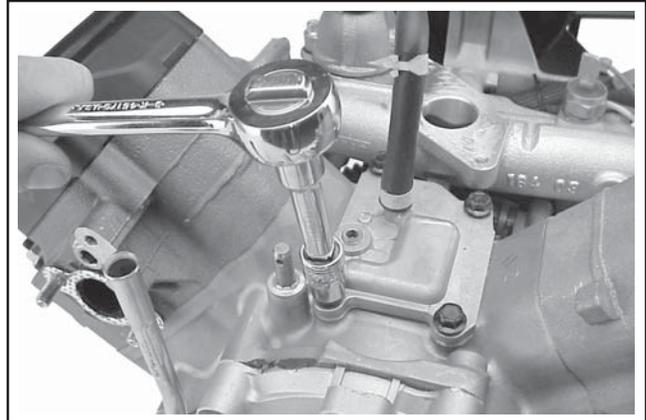

Figure 9-25. Removing the Breather Cover Screws.
1. Remove the four hex flange screws securing the breather cover to the crankcase. See Figure 9-25.